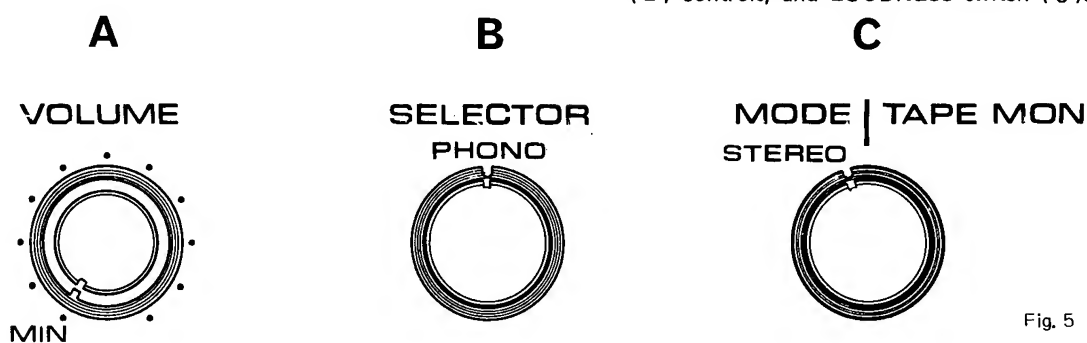

Fig. 5
- Set the VOLUME control (5) to the MINimum position. (Fig. 5-A)
- Set the SELECTOR switch (4) to PHONO position. (Fig. 5-B)
- Set the MODE/TAPE MON switch (8) to the MODE STEREO (left-hand side) position. (Fig. 5-C)
- Confirm that the SPEAKERS pushbutton switch (7) is in the On position (the button is projecting).
- Turn On the POWER switch (1) (by rotating the knob clockwise).
- Operate the record player and play a record. Set the sound volume and tone quality as desired by using the VOLUME (5), BASS (3) and TREBLE (2) controls, and LOUDNESS switch (9).